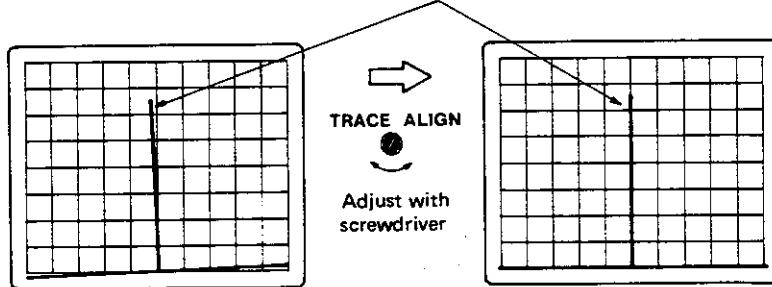

Fig. 3-1 TRACE ALIGN Adjustment
- (6) Turn **FOCUS** until a sharp trace is obtained. A sharp focus may be difficult if the trace is too bright. In this case, adjust the **INTENSITY** as required.
- (7) If the trace is tilted relative to the vertical graticule line of the CRT, adjust **TRACE ALIGN** with a screwdriver to bring it correctly along the graticule. [Fig. 3-1]
- (8) Using the N-BNC conversion adapter (JUG-201A/U or **TR1613**) with the BNC-BNC cable (**MI-02**), connect **CAL. OUT.** on the front panel to **INPUT** connector. For **TR4132N**, use **MO-15**